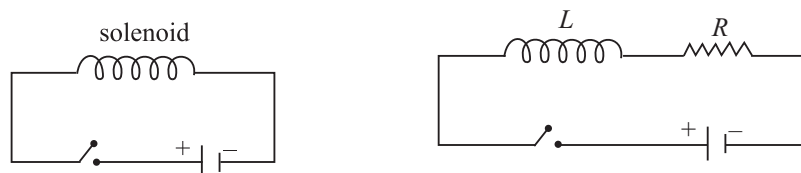
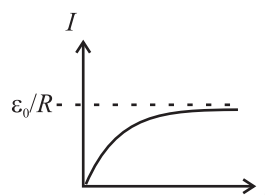

Fig. 19.9: LR Circuit
Fig.19.10 : Variation of current with time in a LR-circuit.
Suppose that a solenoid is connected to a battery through a switch (Fig.19.9). Beginning at $t = 0$, when the switch is closed, the battery causes charges to move in the circuit. A solenoid has inductance (L) and resistance (R), and each of these influence the current in the circuit. The inductive and resistive effects of a solenoid are shown schematically in Fig.19.10. The inductance (L) is shown in series with the resistance (R). For simplicity, we assume that total resistance in the circuit, including the internal resistance of the battery, is represented by R . Similarly, L includes the self-inductance of the connecting wires. A circuit such as that shown in Fig.19.9, containing resistance and inductance in series, is called an LR circuit.
If there been no inductance in the circuit, the current would have jumped immediately to the maximum value defined by ϵ_0/R . But due to an inductance coil in the circuit, the current rises gradually and reaches a steady state value of ϵ_0/R as $t \rightarrow \tau$. The time taken by the current to reach about two-third of its steady state value is equal to L/R , which is called the **inductive time constant** of the circuit. Significant changes in current in an LR circuit cannot occur on time scales much shorter than L/R . The plot of the current with time is shown in Fig. 19.10.